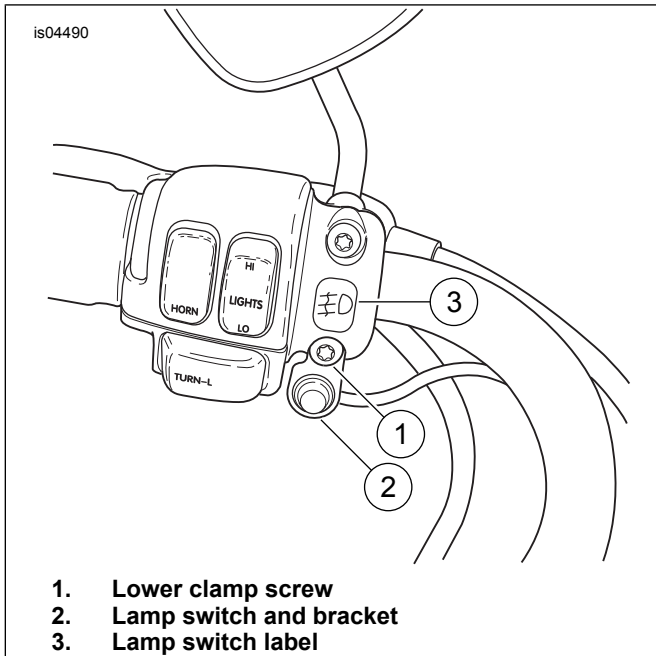

Figure 8. Install Lamp Switch to Clutch Control Clamp
16. See Figure 8. Remove the lower screw (1) and washer from the clutch control clamp, and install the lamp switch and bracket assembly (2). Install the screw and washer and tighten to 7–9 N·m (60–80 **in-lbs**). International Applications: Place the fog lamp switch label (3) on the clutch control clamp.